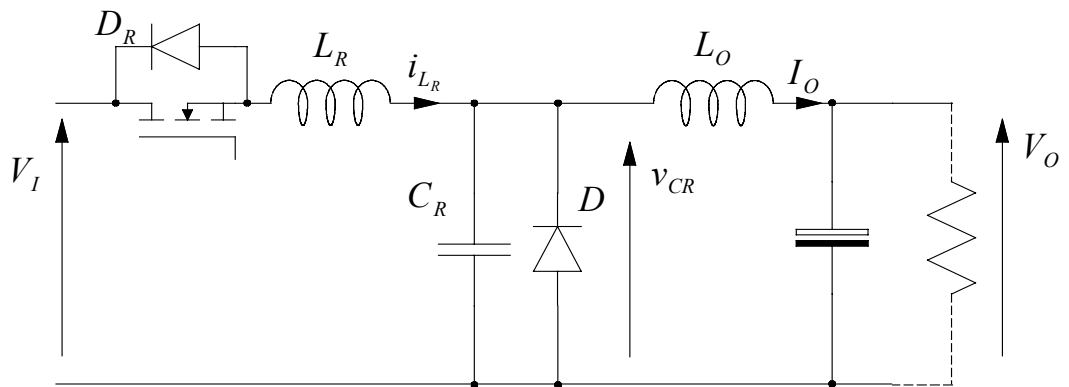

Figure 2 A quasi-resonant switch mode power supply
- (b) The circuit of **Figure 2** shows a quasi-resonant switch-mode power supply. It can be assumed that the circuit is in steady-state and that the output voltage V_O and the current I_O are constant over a switching cycle.
(b) The circuit of **Figure 2** shows a quasi-resonant switch-mode power supply.